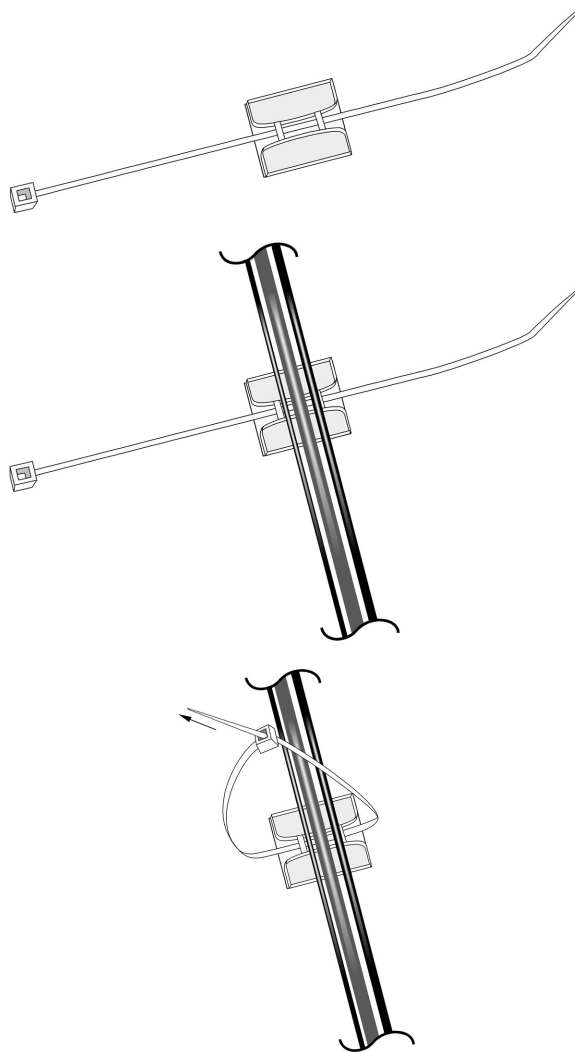

FIGURE 6-2. Securing cables to the cable tie tabs
8. Secure sensor and component cables to the side of the enclosure using 20 cm (8 in) cable ties and cable tie tabs (see FIGURE 6-2 (p. 10)).
6. Secure sensor and component cables to the side of the enclosure using 20 cm (8 in) cable ties and cable tie tabs (see FIGURE 6-2 (p. 10)).